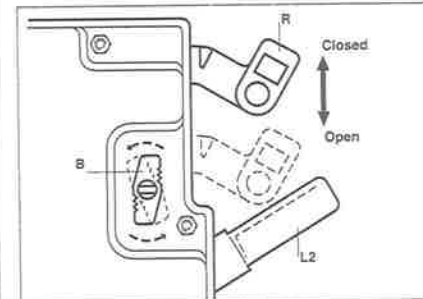
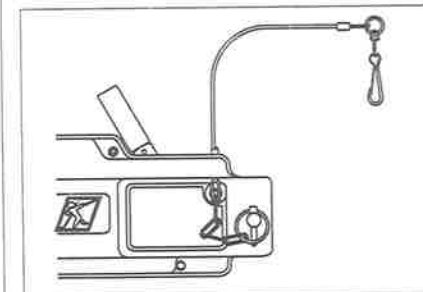

Fig. 3
Fig.4 Anchor locking pin in locked position
- 2- Tilt the machine until it rests vertically on its anchor pin end. Turn the lock button B. Push the rope release lever (R) firmly forward towards the anchor pin end, until it locks itself into open position (see Fig. 3). Both pairs of jaws are now open.
- 3- Now, place the machine horizontally. Push both levers (L1) and (L2) towards anchor pin end. Insert the end of the rope through the rope entry (E) at the opposite end from the anchor pin end and push until it passes completely through the machine.
- 5- Position the machine and refit the anchor pin (P) through the eyes of the sling. Refit the anchor locking pin in locking position (see Fig. 4). Ensure that the rope passes beneath the anchor pin. Anchor the wire rope hook. Check that the hook latch is closed.
- 6- To close jaws on the wire rope, push the rope release lever (R) downwards and allow the release lever to return to initial position. Machine is now ready for use.
- 7- Place the handle (T) on lever (L1) to lift or pull, or on lever (L2) to lower or slacken the wire rope.
Before operating machine, check that the rope hook latch is closed and that the anchor pin is safely positioned and locked by the locking pin (see Fig. 4).